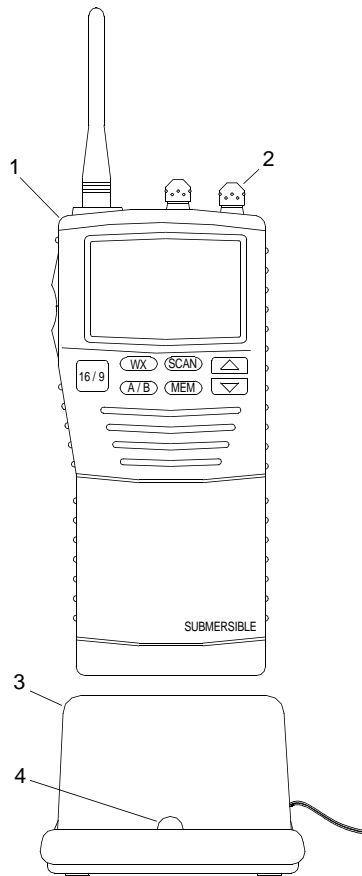

Figure 13. Battery Charger
- a. Turn transceiver (figure 13, item 1) off by turning POWER/VOLUME knob (figure 13, item 2) counterclockwise to the OFF position.
- b. Insert transceiver (figure 13, item 1) into charger (figure 13, item 3). Charge indicator (figure 13, item 4) lights up to show that the battery is charging.
- c. Remove transceiver (figure 13, item 1) from charger (figure 13, item 3) when battery charge time has elapsed.